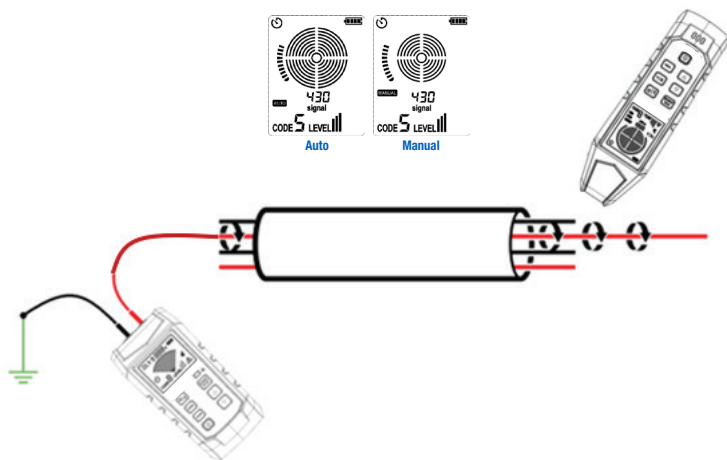

Figure 8.8.1a – Identifying the Specific Cable in Cable Harness
5. See **Figure 8.8.1a** for specific application.